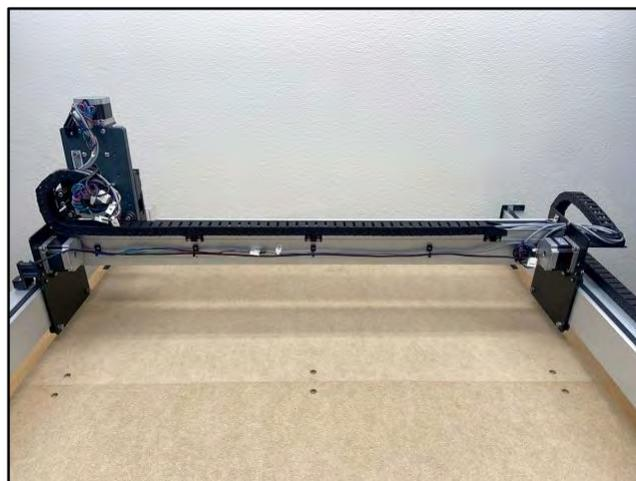

Figure 40
1. Install cable tie mounts to the back of the X-rail. See *Fig. 40*.
- c. Install the five (5) mounts to the upper five M4 threaded screw holes along the middle of the rail.
- d. Use a 3mm hex key and one (1) M4×6mm BHCS to secure each mount.
2. Tidy up the cables along the rear of the X-rail. See *Fig. 40*.